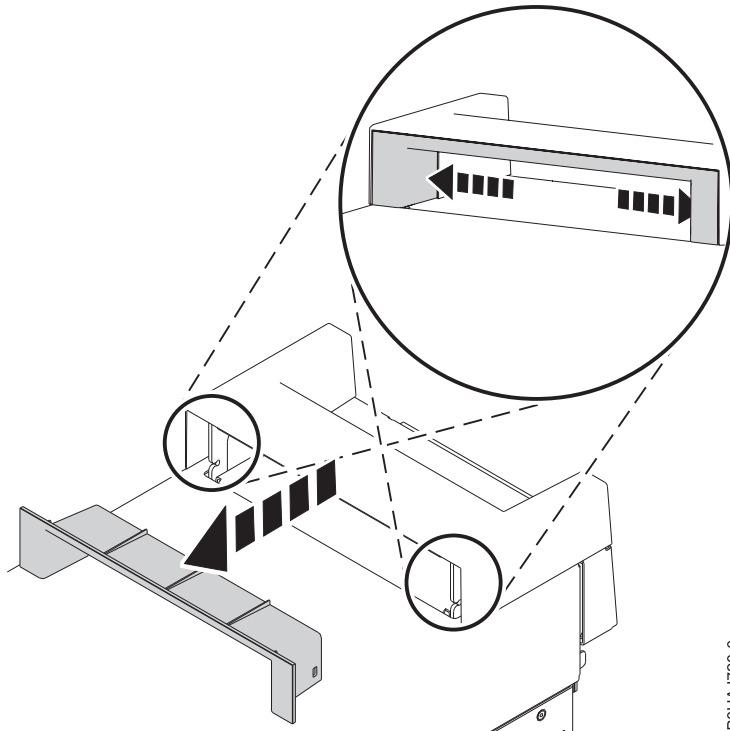

Figure 16. Removing the piece within the handle cover on an 8286-41A stand-alone system
1. Remove the plastic piece within the interior of the handle cover by pushing the latches on the inside firmly and sliding it out. See Figure 16 on page 34.